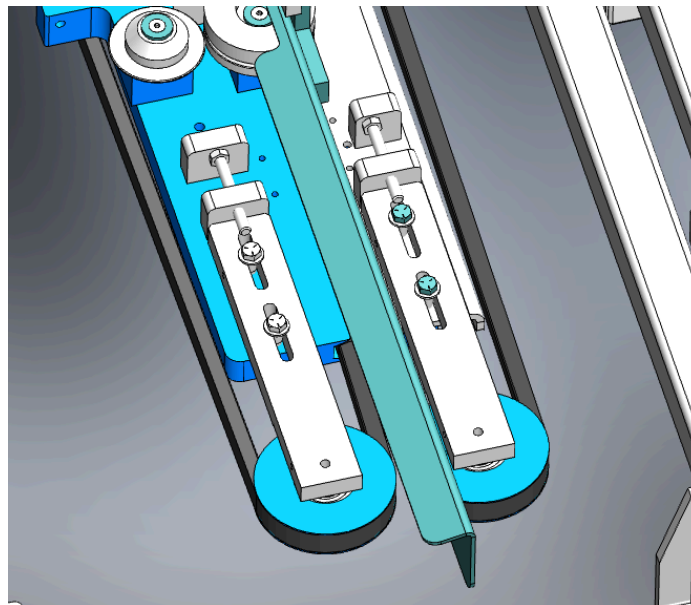

Figure 1
- Increase / decrease belt tension using the adjustment screws (**see Figure 1**)